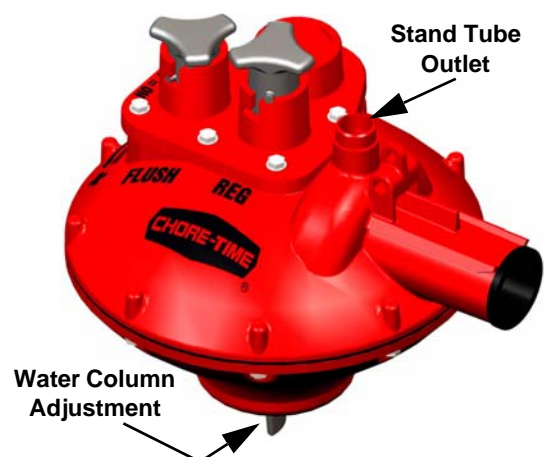

Figure 11. Water Regulator
2. At the regulator adjust the minimum height by rotating the water column adjustment knob on the regulator to the desired setting, see figure 11. **DO NOT** adjust the water column height below the stand tube outlet otherwise water hammer will occur.